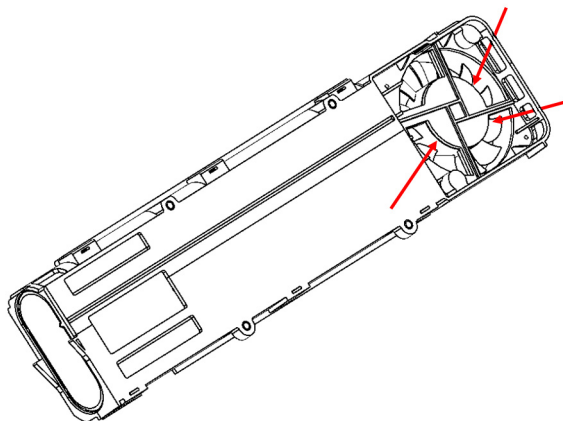

**Figure 5-17.** Removing Fan From Double Sided Tape
2. With the two screws removed, there is still double sided tape on the plastic circle in the center of the fan securing the fan to the battery compartment. To remove the fan, the center back side of the fan will need to be separated from the battery compartment. This can be done using a small flathead screwdriver to pry the back side of the fan from the battery compartment as shown in Figure 5-17.